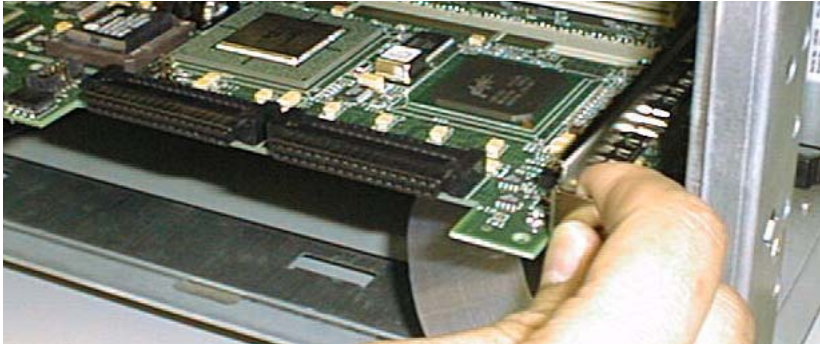

Figure 5. Plugging the AcceleRAID 352 into a PCI Slot
1. With the power off, plug the AcceleRAID 352 controller into an available 32-bit or 64-bit PCI slot on the system board (refer to Figure 5). The 32-bit slot is short, the 64-bit slot is longer.